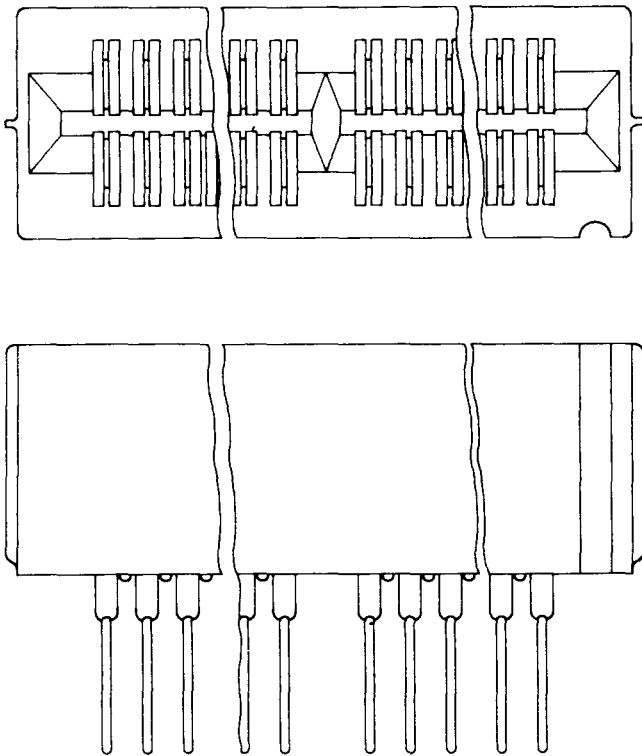

Fig. 13—930A Connector
2.13 930A: The 930A connector (Fig. 13) consists of a molded block of insulating material containing 100 contact spring assemblies arranged on 0.150 inch centers in two rows of 50 each. The termination ends of the contact springs are arranged to accept two wraps of 26-gauge wire. The connector is arranged for slot mounting. The 930A connector is used in the 810A PBX.